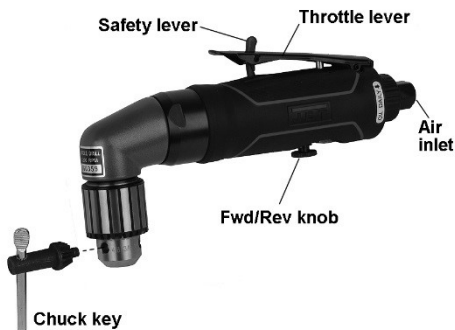

Figure 1
1. Remove protective cap from air inlet (Figure 1). If an in-line oiler is not being used, add 4 or 5 drops of air tool oil (not included) into the air inlet.
6. Select rotation direction with knob (Figure 1): For reverse, push knob into housing and turn it to keep it engaged. For forward, turn knob until it retracts from housing.